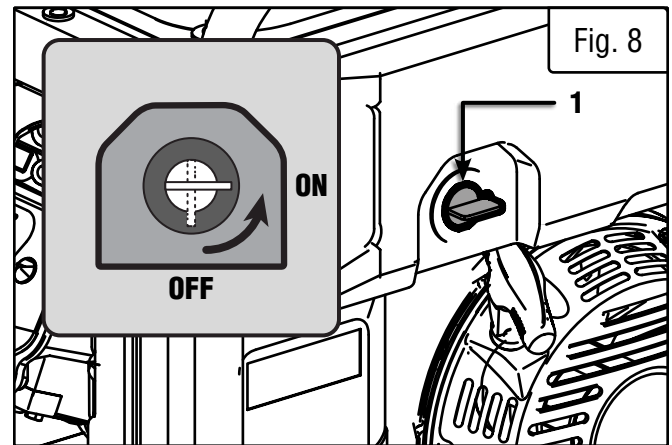

Fig. 8
1. Turn the fuel valve (Fig. 8 - 1) to the ON position.